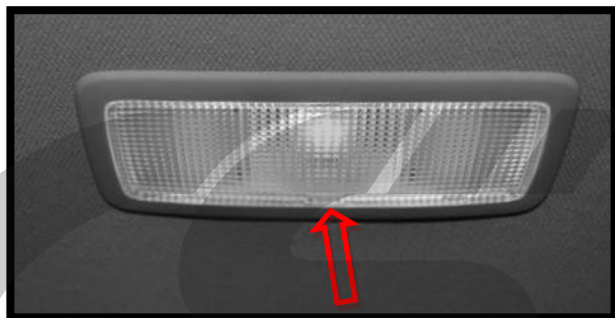

Figure 2a
a) Remove the light cover with a trim removal tool or small flat head screw driver. There is a small indentation in the clear plastic lens that is there for this purpose (red arrow in **Figure 2a**).